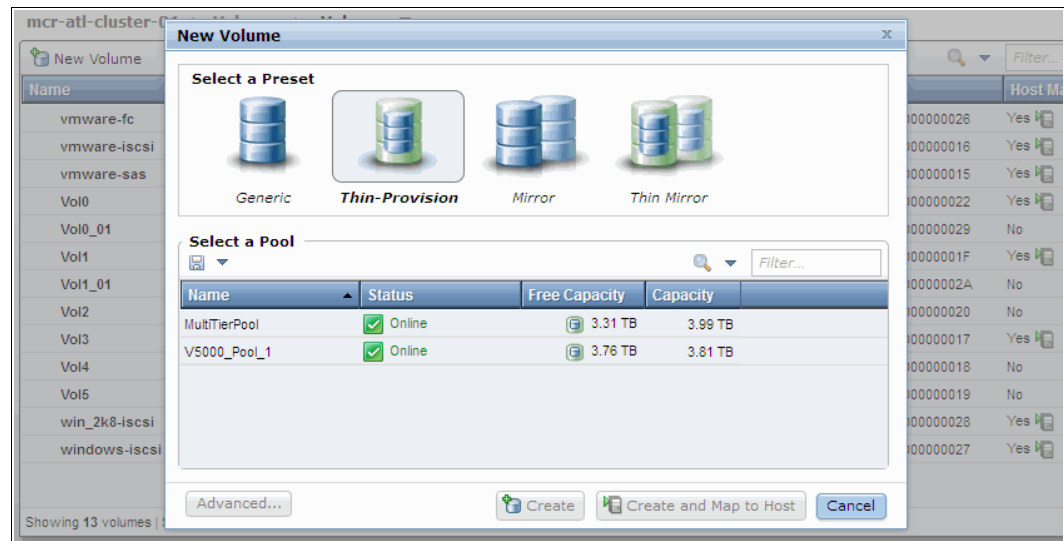

Figure 5-8 Creating a thin-provisioned volume
1. Select **Thin-Provision**, as shown in Figure 5-8.